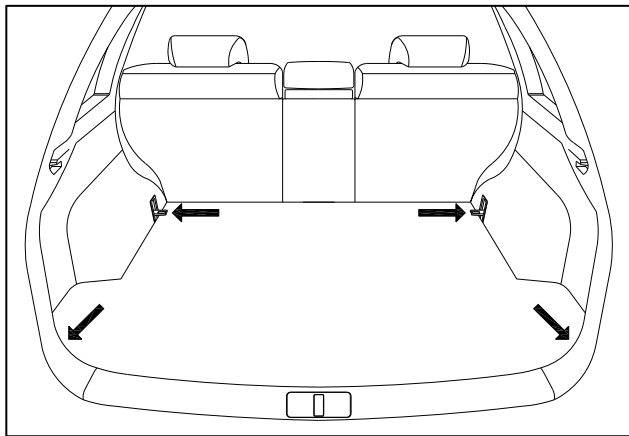

Fig. 1-1
- (a) Open vehicle rear cargo door, locate and pull down the four fold-out D-rings as shown. (Fig. 1-1)